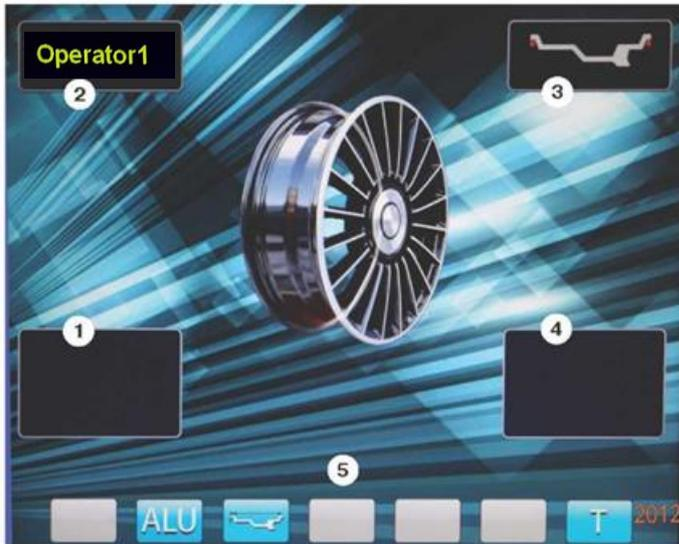
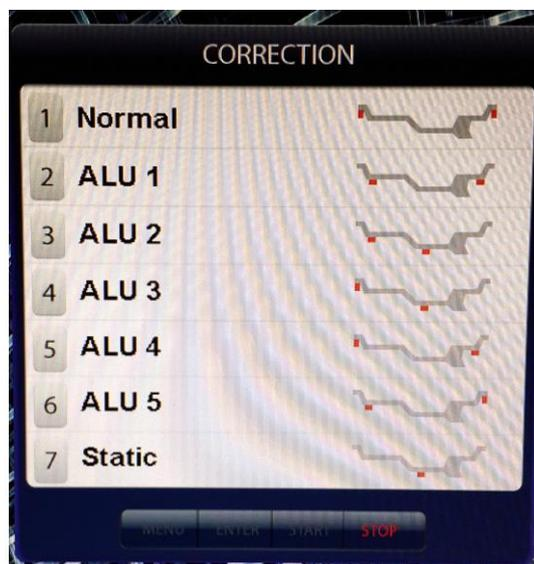

fig. 8.2
fig. 11.3
8.3. After the WB has been powered up, the monitor displays brand-name startup screen, which changes to the main operational mode screen in a few seconds. (fig. 8.2).
To select a weight positioning scheme in the programs «ALU1-ALU5» you will need to press the button «ALU» on main operating mode screen. It will open the window for weight positioning schemes marked with numbers (fig. 11.3). If, after the entering of the wheel size you see the parameters screen, you have to switch to the main operating mode screen using the button «STOP». To select the required scheme, press the top row button on the keyboard with the corresponding number. Selected weight positioning scheme will appear in the window 3 of the main operating mode screen (fig. 8.2).
12.2. The program for measuring of the unbalance is set not to count the unbalance of less than 5 gr in any correction plane (factory default). In this case, the windows 1 and 4 show the message «OK» (fig. 8.2). Minimum unbalance to be shown in the windows 1 and 4 is 5 gr. Unbalance greater than 5 gr will be rounded off to the nearest multiple of 5 gr, i.e. the unbalance values of 9, 10, 11 and 12 gr will be shown as 10, the unbalance values 13, 14, 15, 16 and 17 gr - as 15 and so on. To view the unrounded value or the value under 8 gr press the button «<>». This will display the actual unbalance values for this cycle in windows 1 and 4 for 2-3 seconds.
12.3.4. To check the balancing results start the WB again. If the wheel is balanced correctly the indicators 1 and 4 will show the «OK» messages (fig. 8.2.).